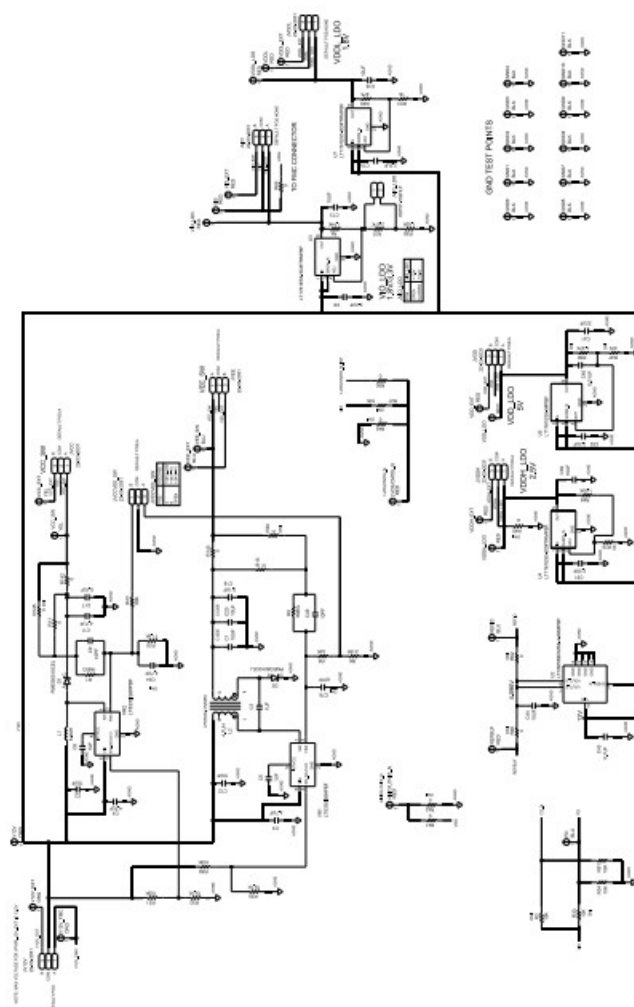

Figure 7. Power Solution Schematic
- External reference with internal buffer. For this configuration, connect the external reference to the REFIO pin and populate the R62 resistor shown in Figure 7.
- External reference with disabled internal buffer. For this configuration, connect the external reference to the REFBUF pin and populate the R46 resistor shown in Figure 7 and also connect the REFIO test point to ground.